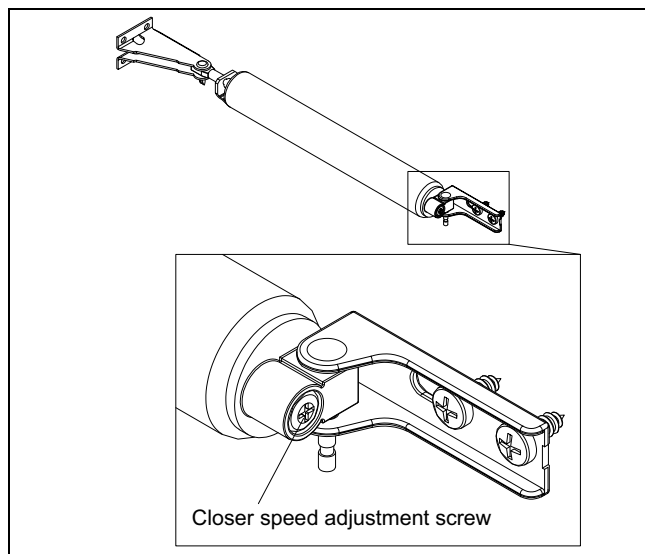

Figure 15
1. Closing speed adjustment is made by tightening or loosening adjusting screw located at the rear of cylinder assembly. See figure 15. If smoother more quiet closing action is desired, hold door open about 8" (203) with hold-open washer. Remove long connecting pin from door bracket and relocate in closer tube rear hole.